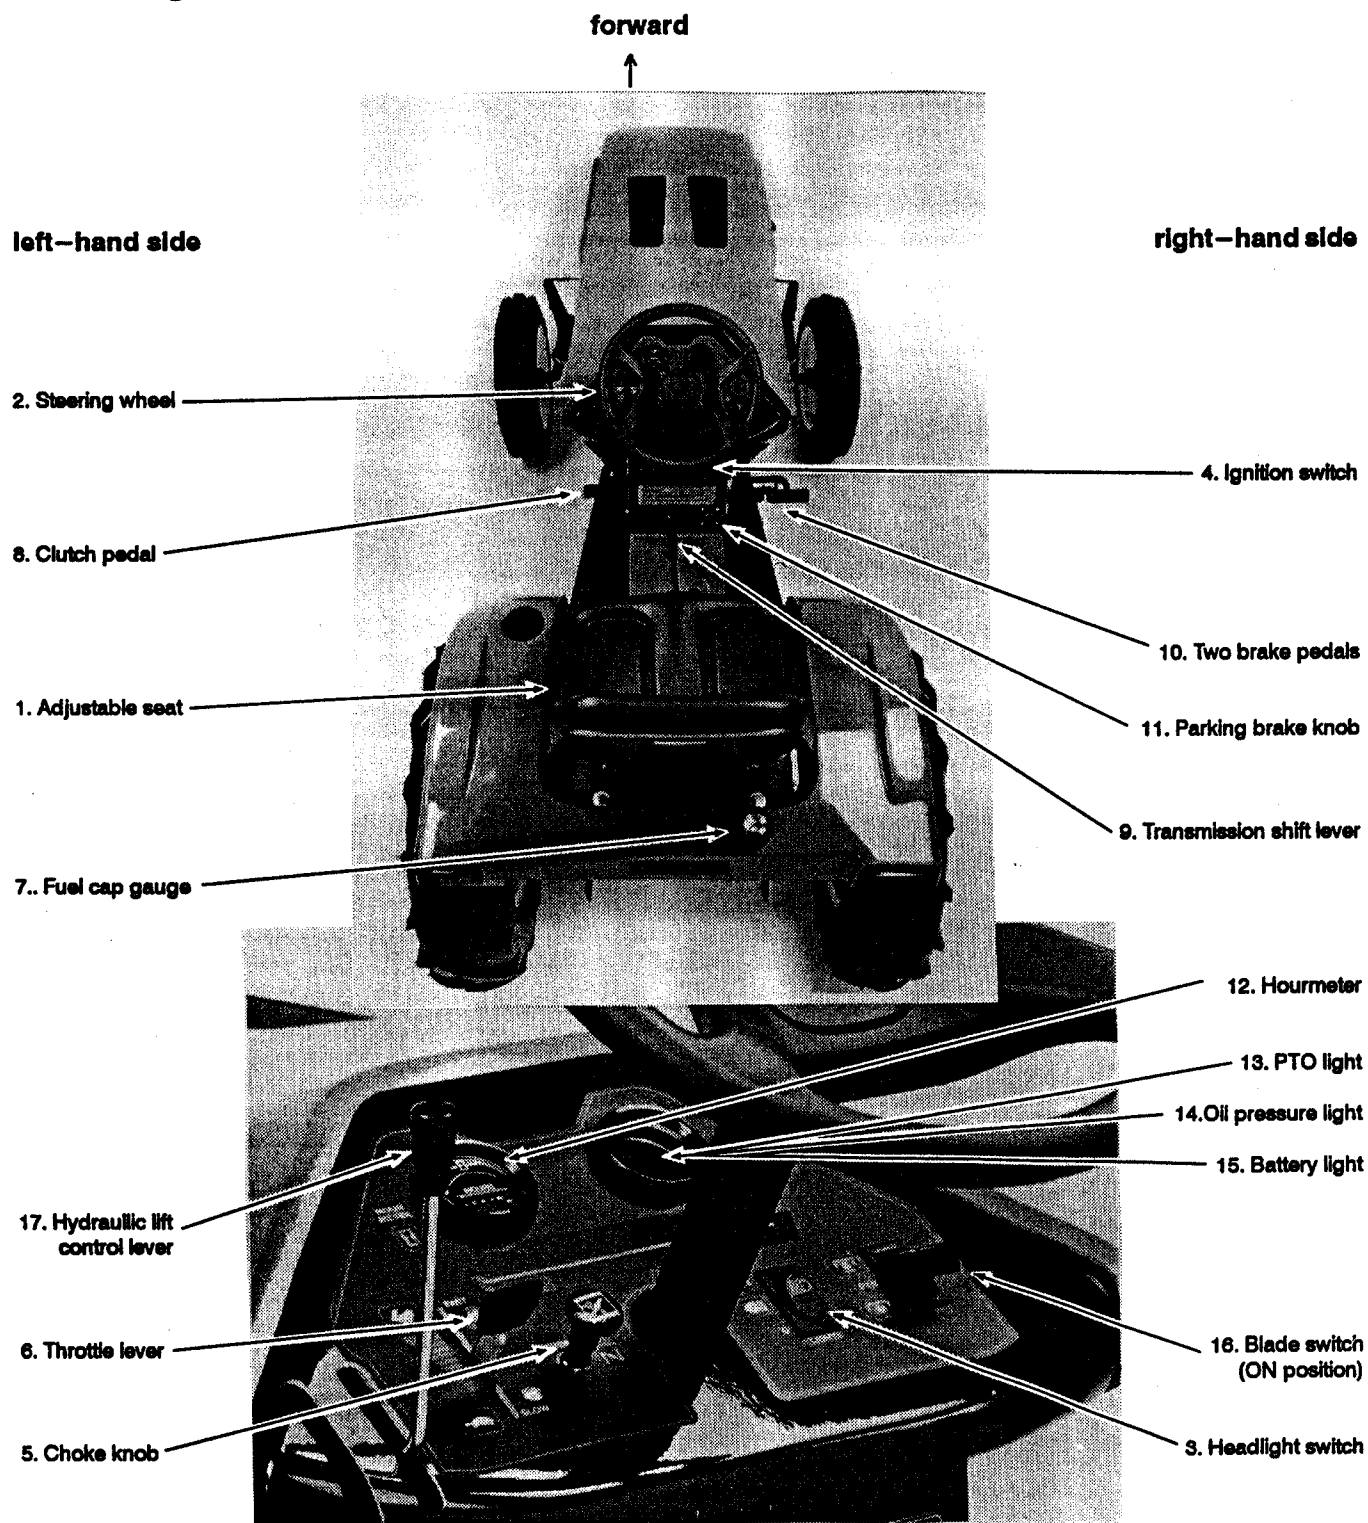

Figure 2. Operator controls.
Tractor controls and gauges are shown in Figures 2 through 9 and described as follows. Locate these controls on your tractor and know how to use them before operating the tractor.
1. **ADJUSTABLE SEAT** – moves forward or back, up to 3". (Refer to Figure 2)
2. **STEERING WHEEL** – controls the front wheels of the tractor for steering. (Refer to Figure 2)
3. **HEADLIGHT SWITCH** – controls the tractor's headlights. (Refer to Figure 2)
4. **IGNITION SWITCH** – starts and stops the engine. This is a 3-position, key-actuated switch. (Refer to Figures 2 & 3)
5. **CHOKE KNOB** – provides richer fuel-air mixture in the engine's carburetor for cold starting. (Refer to Figure 2)
6. **THROTTLE LEVER** – controls the engine speed. (Refer to Figure 2)
7. **FUEL CAP and GAUGE** – shows fuel level and unscrews for dispensing of fuel into tank (Refer to Figures 2 & 4). Use only unleaded, minimum octane 87 gasoline.
8. **CLUTCH PEDAL** – engages/disengages the clutch between the engine and transmission. (Refer to Figures 2 & 5). This pedal must be depressed, disengaging the clutch, to start the engine and to shift gears (up or down). It should be depressed when slowing or stopping the tractor. Refer to "Tractor Operation" starting on page 10 in this manual.
9. **TRANSMISSION SHIFT LEVER** – hand operated to control the direction (forward/reverse) and speed of the tractor in conjunction with the throttle settings and use of the clutch pedal. (Refer to Figures 2 & 6)
10. **THE TWO BRAKE PEDALS** – control the brakes. The pedals are located on the right-hand side of the tractor. The **LEFT PEDAL** controls the left wheel and the **RIGHT PEDAL** controls the right wheel. (Refer to Figures 2 & 7).
11. **PARKING BRAKE KNOB** – latches the brake to lock the rear wheels. It is located on the right-hand side of the console. (Refer to Figures 2 & 7).
12. **HOURLMETER** – tells number of hours the tractor has operated. (Refer to Figures 2 & 8). It runs when ignition switch is “ON.” Do not leave ignition “ON” when engine is not running. Use hourmeter as a guide for when to do scheduled maintenance.
13. **PTO LIGHT** – illuminates when electric clutch / PTO is engaged. (Refer to Figures 2 & 8).
14. **OIL PRESSURE LIGHT** – signals low oil pressure when lit. (Refer to Figures 2 & 8). It illuminates momentarily when the ignition switch is “ON”, but the engine is not running (e.g., during starting sequence).
15. **BATTERY LIGHT** – illuminates when battery is discharging. (Refer to Figures 2 & 8). It lights momentarily during starting sequence. It should be off when the engine is running above idle. If not, shut the engine off and refer to “Troubleshooting” on page 14 in this manual to find the source of the problem.
16. BLADE SWITCH – starts and stops the electric clutch on the front of the engine for the power take off (PTO). The electric clutch drives all front and middle rotary implements. (Refer to Figures 2 & 9).
17. HYDRAULIC LIFT CONTROL LEVER – controls the attachments. It is linked to a hydraulic control valve. (Refer to Figures 2 & 9).